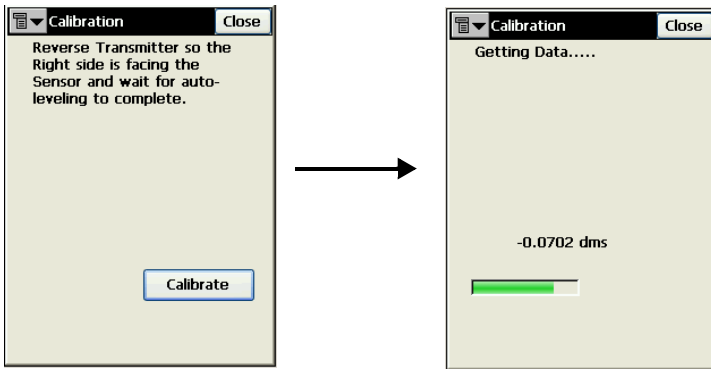

Figure A-18. Turn Transmitter to Right and Collect Data
10. Turn the transmitter 180° so the right side faces the transmitter. tap **Calibrate** (Figure A-18).